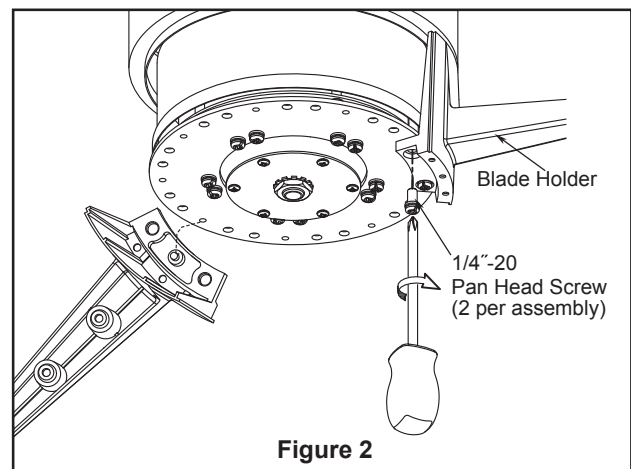

Figure 2
2. Secure the blade holders to the flywheel using the 1/4"-20 screws, the post on the blade holder need to align the hole between the 1/4"-20 threaded holes located on the bottom of the flywheel (Figure 2)